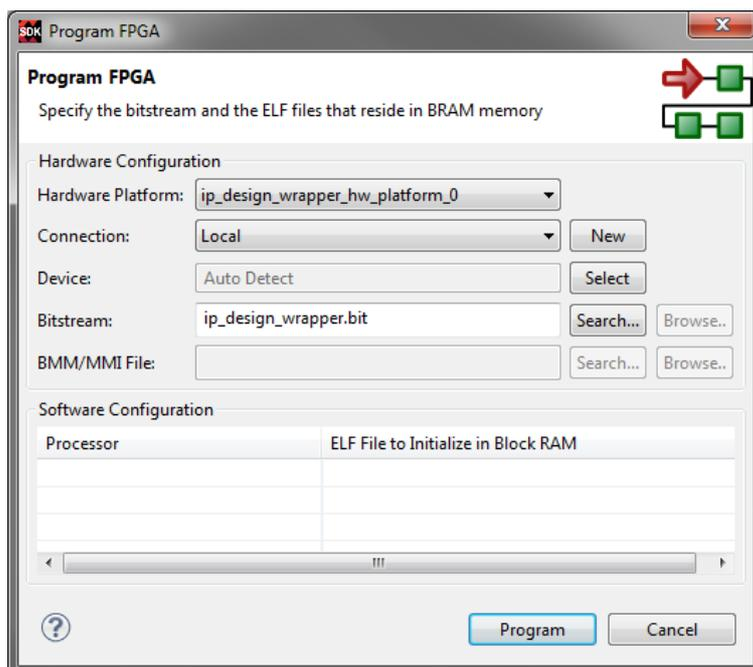

Figure 5.33: Program FPGA window
- (u) Select **Xilinx Tools > Program FPGA** from the *Menu Bar*. The Program FPGA window should be configured as in Figure 5.33.